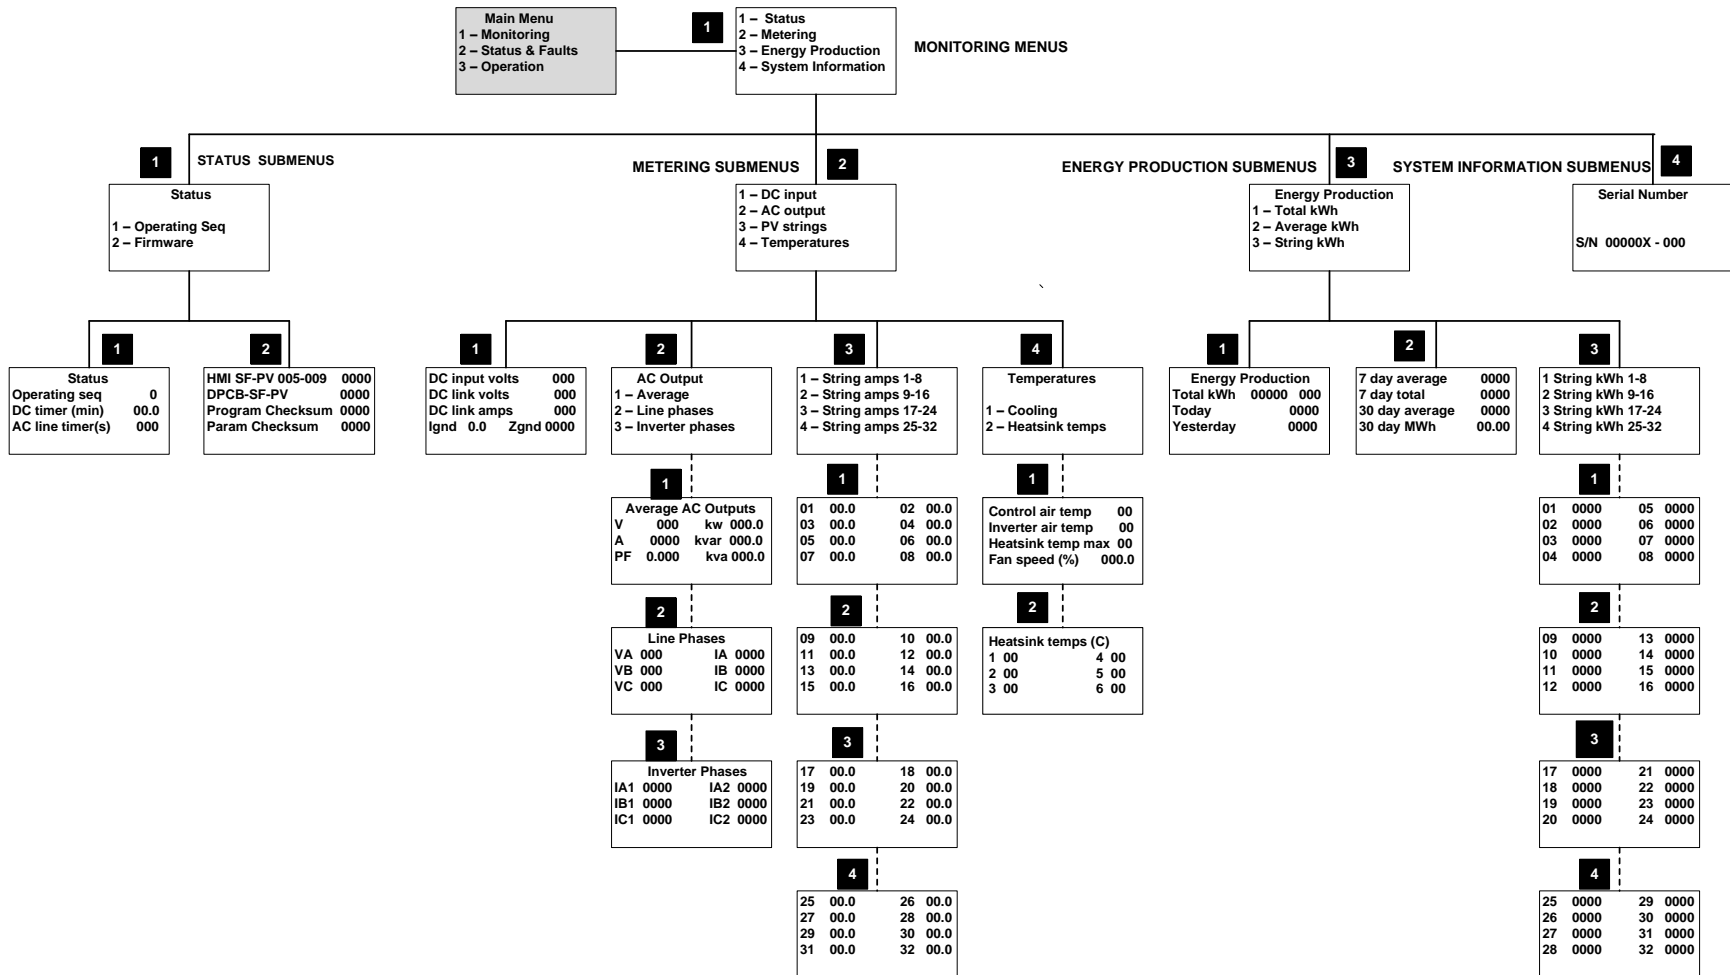

Figure 31 Monitoring Menu Hierarchy
- Monitoring menus (Refer to Figure 31)
The Monitoring menu contains the following submenus (see also Figure 31, and Table 19 through Table 23):
Refer to Figure 31 and Table 21.
Refer to Figure 31 and Table 22.
Refer to Figure 31 and Table 23.